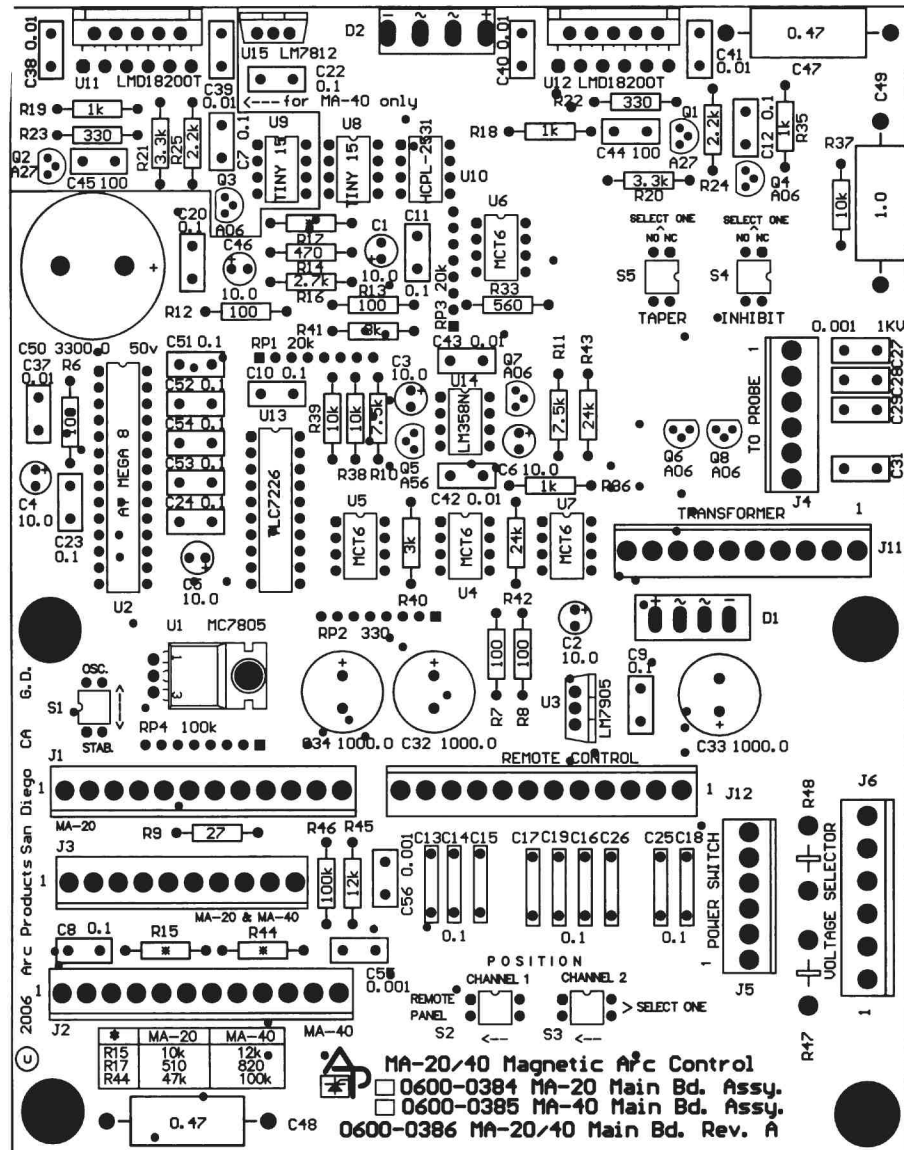

FIGURE 30 - MA-20 MAIN BOARD LAYOUT
- With the power Off, set the Sweep and Amplitude controls to their fully counter clockwise positions ("000" on the dial) and set the Position control at its center position ("500" on the dial). Set both the Left and Right Dwell controls to about 1 second ("300" on the dial). Open the controller door and find the STAB/OSC DIP switch on the main board, see Figure 30 - MA-20 Main Board Layout. Set the STAB/OSC switch in the Oscillate position.